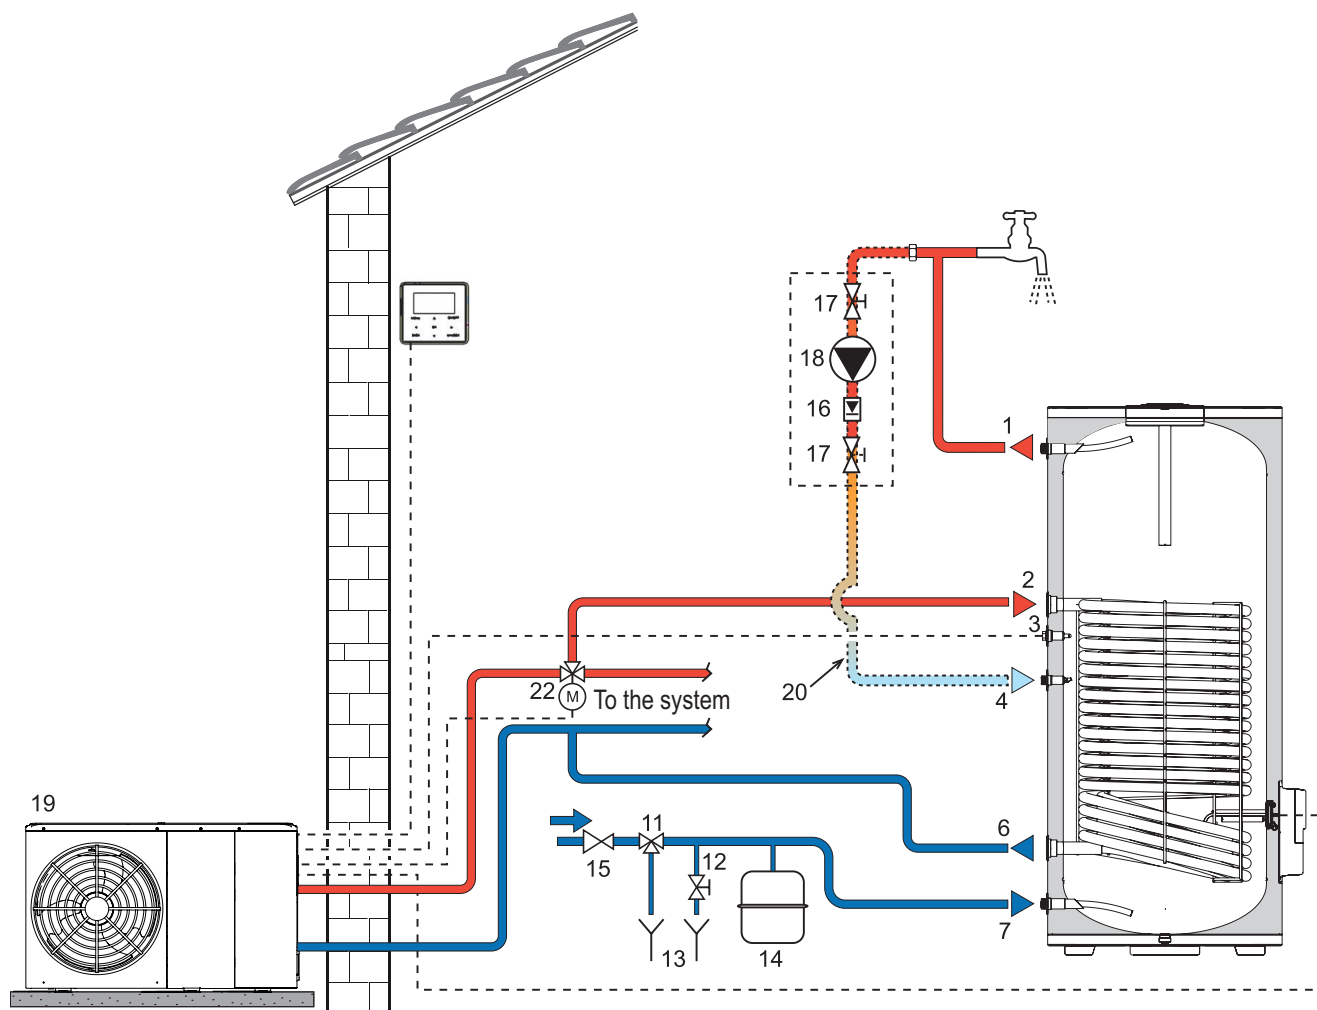

fig. 10 - Hydraulic circuit ECOUNT HP 1C
- To carry out emptying, turn off the faucet for filling from the mains supply, connect a hose to the drain connection (not supplied - ref. 12 in fig. 10 and fig. 11), foreseen during the installation phase, and place the other end in an area provided with an external drain.